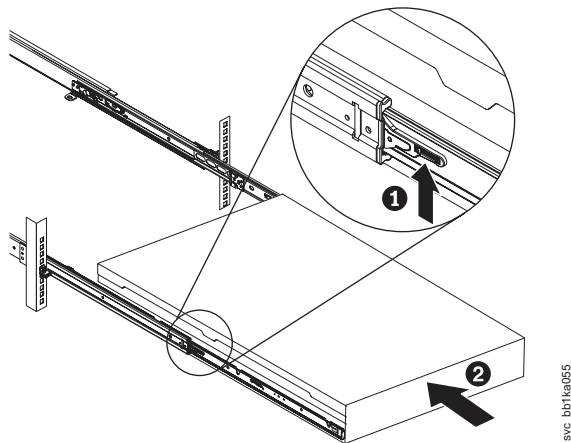

Figure 281. Raising the SAN Volume Controller 2145-CF8 locking levers of the slide rails of the rack
17. Lift the locking levers ( **1** in Figure 281) on the slide rails and push the server **2** all the way into the rack until it clicks into place.